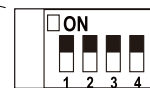

Figure 14
- ☐ 2. To set the receiver unit code, slide code switches to the same positions as set on your transmitter (Figure 14).